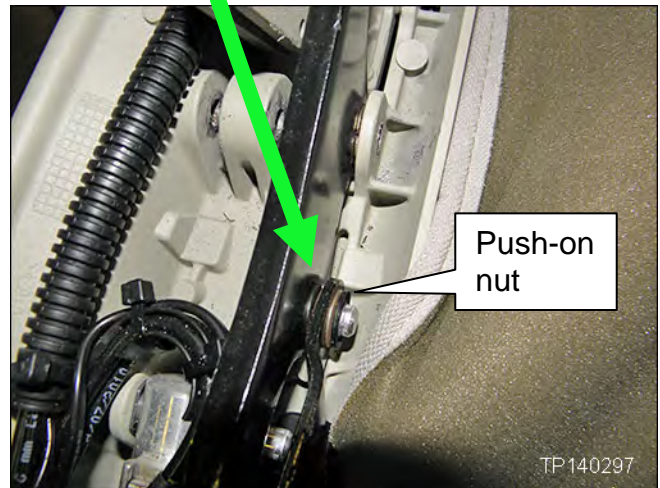

Figure A10
**NOTE:** During removal, you may find that this pin has a push-on nut as shown in Figure A10, or a clip as shown in Figure A11.